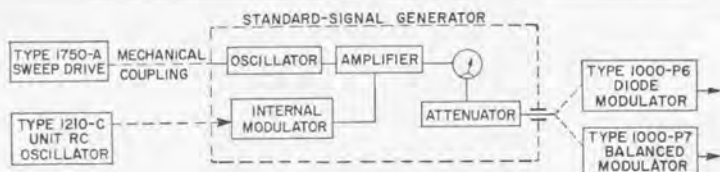

Figure 2. Modulation methods.
(3) For sweeping, the TYPE 1750-A Sweep Drive is recommended. This mechanical device is used to sweep carrier frequency back and forth over a narrow range, in order to plot or to display the amplitude-vs-frequency characteristics of components and networks. The shaft of the sweep drive is connected by a flexible coupling to the shaft of the frequency-determining element in the radio-frequency oscillator as indicated schematically in Figure 2. Reciprocating rotation up to 300 degrees can be imparted at rates of 1 to 5 cycles per second. The corresponding percentage variation in frequency is listed for each one of the General Radio Signal Generators.